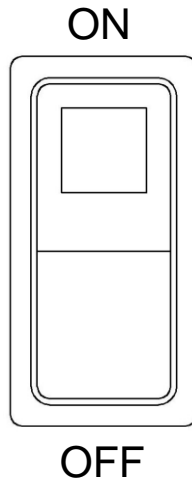

Figure 4-1
3. Turn ON the ON/OFF switch. See Figure 4-1.